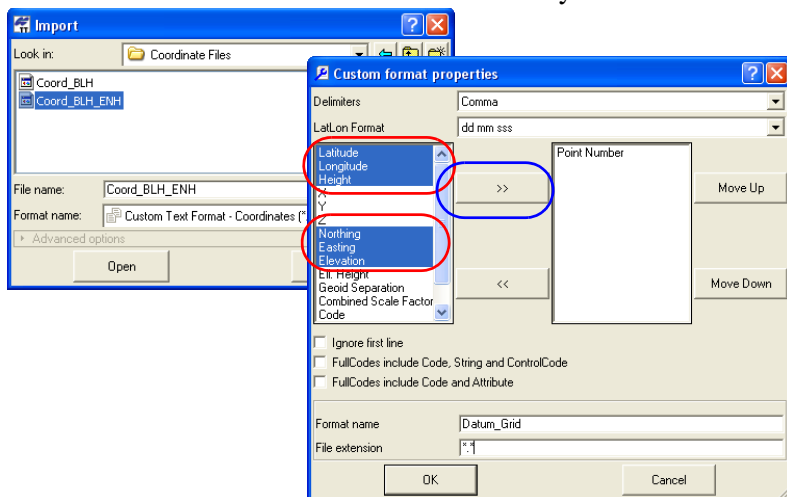

Figure 3-7. Create Custom Text Coordinate Format
4. On the **Custom format properties** dialog window select the delimiter that separates data in a line and the coordinate system used to create the data (Figure 3-7 on page 3-11).
6. Select the rule(s) to use for displaying data (Figure 3-7 on page 3-11):
The coordinate custom text format allows one to insert different types of coordinates (Latitude/Longitude/Height or/and Northing/Easting/Ortho Height or/and XYZ) into this format (Figure 3-7 on page 3-11). If the user selects several coordinate types, Topcon Tools can create (when the user selects **Job ▶ Export**) the following coordinate file: